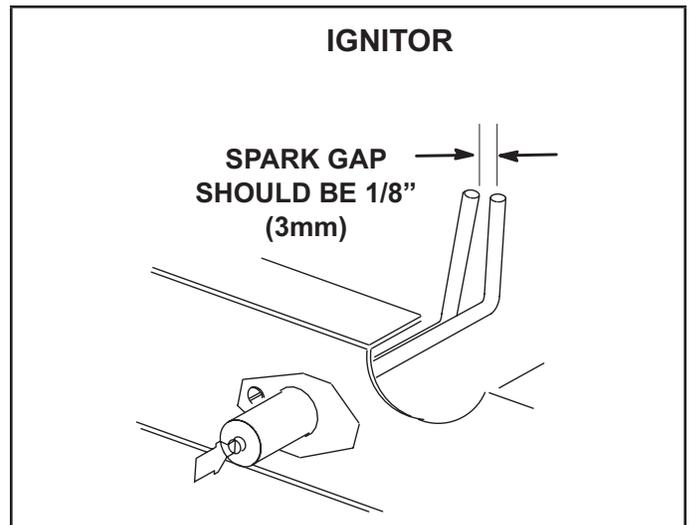

FIGURE 40
- 4 - Locate the ignitor under the left burners. Check ignitor spark gap with appropriately sized twist drills or feeler gauges. See FIGURE 40.